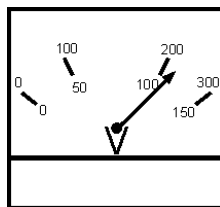
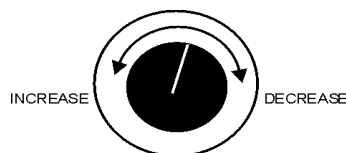

Figure 40. Voltage Meter (Volts)
Figure 41. Voltage Adjust Control Knob
9. The generator's voltage meter (Figure 40) displays the 120 VAC in **VOLTS**. If the voltage is not within the specified frequency tolerance, use the voltage adjustment control knob (Figure 41) to increase or decrease the desired voltage.